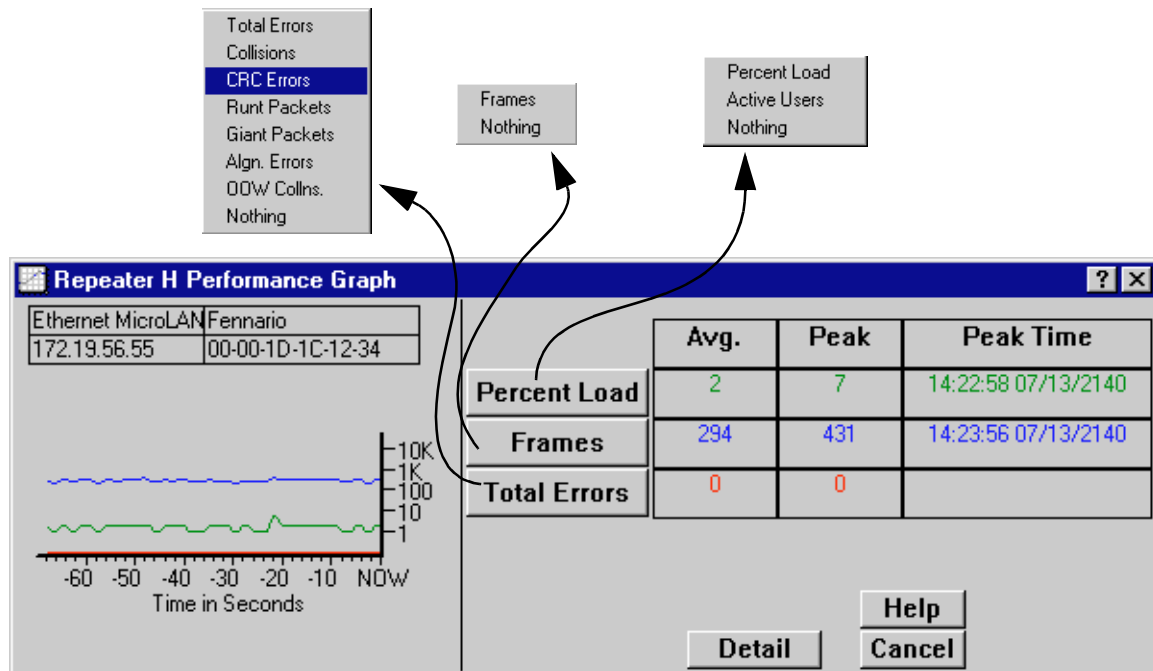

Figure 5-4. The Repeater Performance Graph Window
3. Click on **Performance Graph**. The Performance Graph window, Figure 5-4, opens.
The Board and Port Performance Graph windows are similar to the Repeater Performance Graph window displayed in Figure 5-4, except that they display statistics applicable to the board or port level.